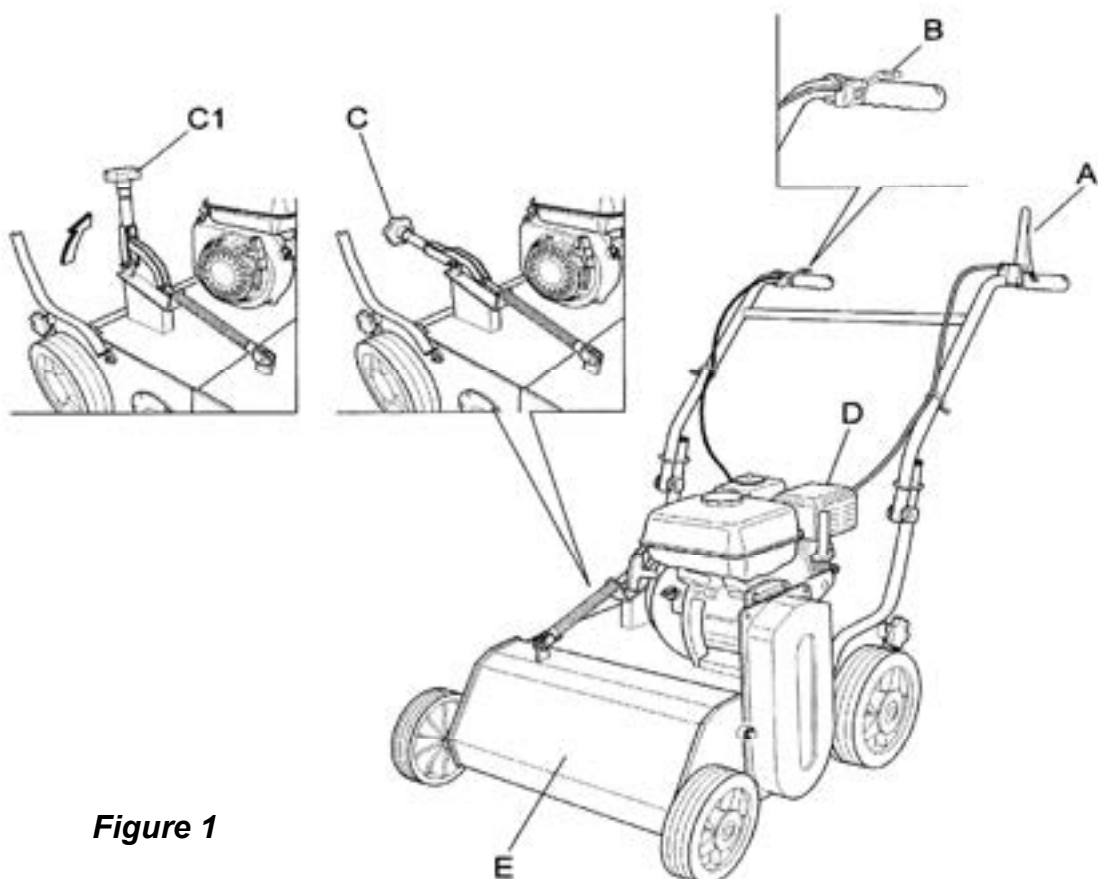

Figure 1
In position C it permits millimetric adjustment of blade cutting height by turning the knob (Fig. 1 Ref. C1) clockwise or anticlockwise.
The front guard (Fig. 1 Ref. H) opens or closes automatically according to the amount of grass to be cut. Use of the machine with the guard left open is strictly prohibited. This may cause the outward projection of objects.
Figure 1 bis
- Before switching on the engine make sure that the blade engagement lever (Fig. 1, ref. A) is in the disengaged position (released) .
- Before moving away from the machine switch off the engine by moving the switch (Fig.1,ref.I) to the 0 position.